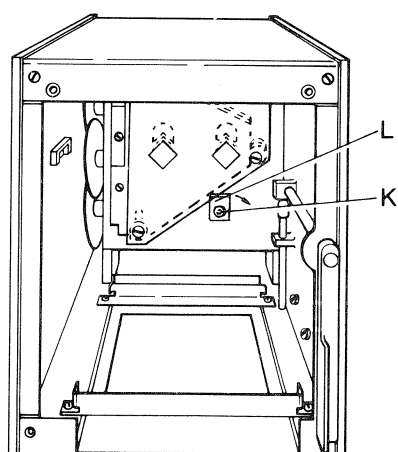

Fig 10
- 3.4.3 With the diffuser box removed, the filter slides are visible in the top position secured by a locking bracket "L" (Fig. 10). Loosen the knurled nut "K" and swing the bracket to the bottom of its travel. The knurled nut should then be re-tightened, the diffuser box replaced, and locked in position.